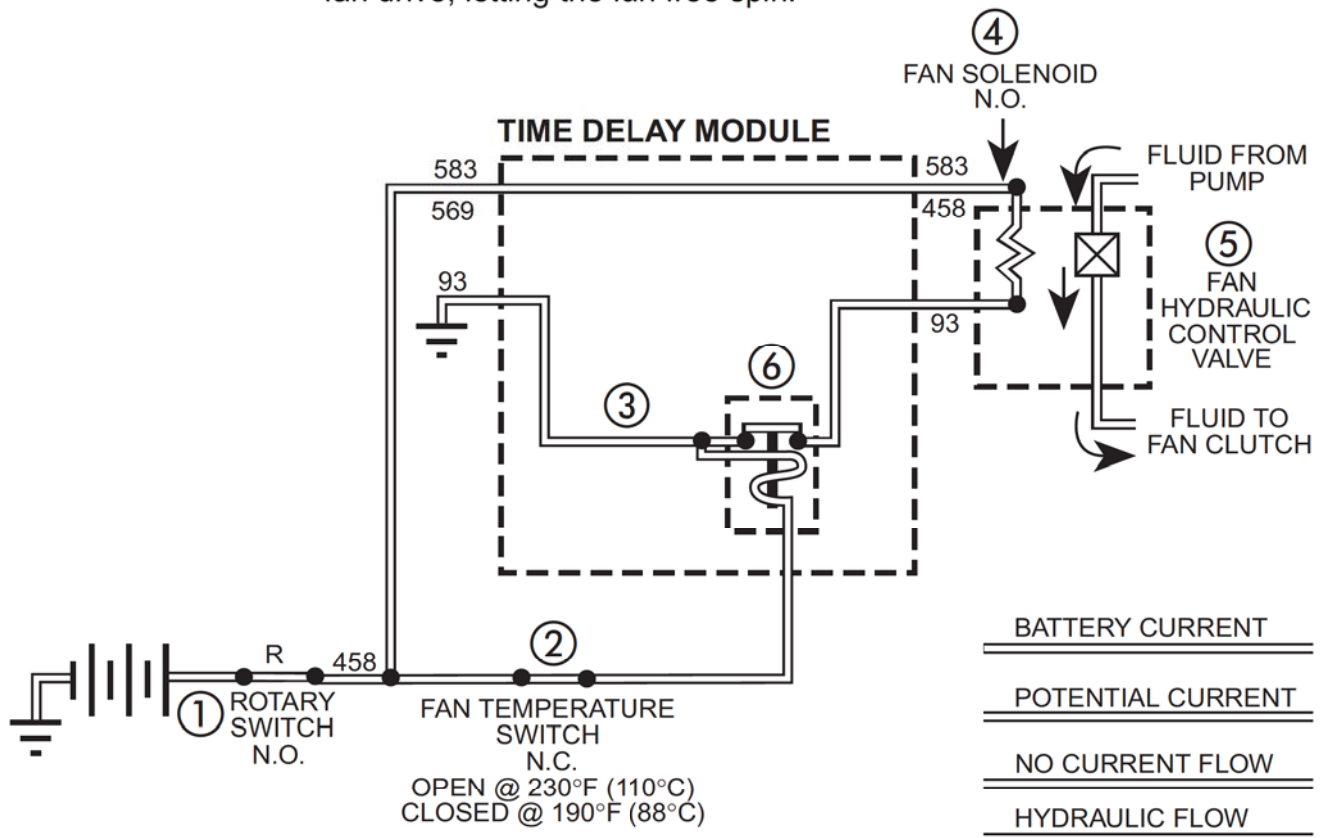

Figure 13-2. Fan Temperature Switch Closed, Engine Temperature below 230°F. Engine Running.
**b. Fan Temperature Switch Closed, Engine Temperature below 230°F. Engine Running. (Figure 13-2)**
1. With the rotary ignition switch (1) in the “R” (run position), current flows from the battery through the #458 wire across the normally closed (NC) fan temperature switch (2), through a relay (6), out the #98 wire to ground.
2. The current flowing through the relay (6) closes a set of points in the #93 circuit. This circuit completion now allows current to flow through the #583/569 wire, through the time delay module (3), out the time delay module via the #583/458 wire, through the fan solenoid (4), out the #93 wire, back through the time delay module (3), across the closed points (6) and out to ground.
3. This flow of current activates the fan solenoid (4), which opens the fan hydraulic control valve (5), allowing hydraulic oil to flow up to 160 PSI to the fan clutch, overcoming the spring and disengaging the fan from the fan drive, letting the fan free spin.